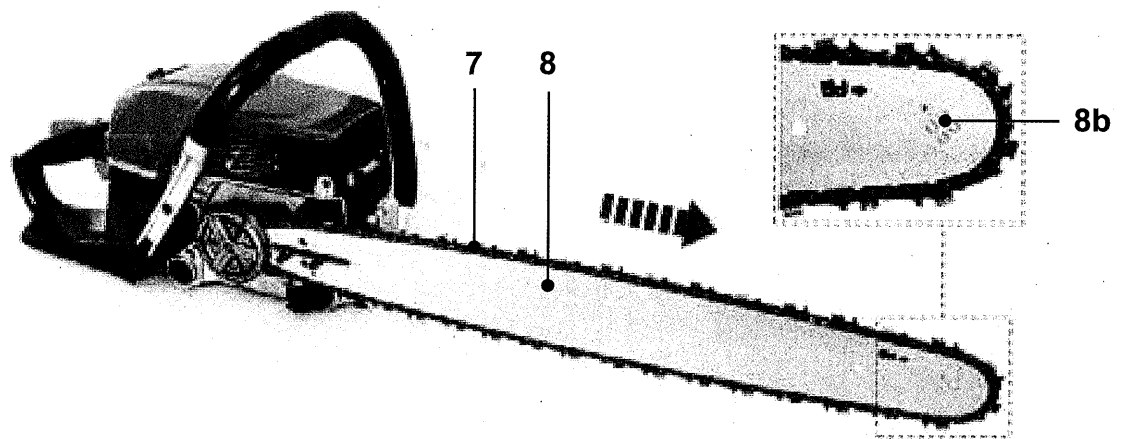

Fig. 5
7. The saw chain movement is as indicated by the arrow (Fig. 5). Make sure the chain is properly placed over the sprocket wheel (8b) of the guide bar (8).
8. Pull the guide bar (8) carefully towards the right to tighten the saw chain (7) (Fig. 5).